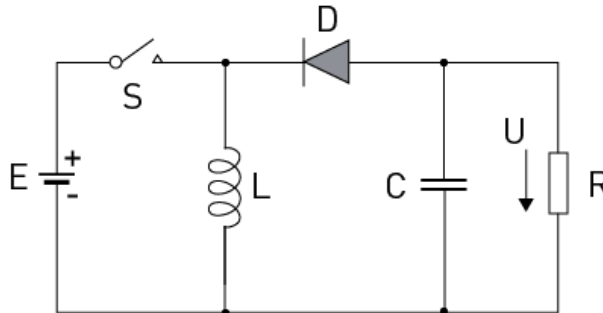

Figure 4: Buck-Boost Topology
Figure 4 shows a buck-boost topology, which looks similar to both a boost converter and a buck converter's topology. Like a boost converter, the power source (E) charges the inductor (L), and current flow is controlled by the switch (S), which is placed similarly to a buck converter.